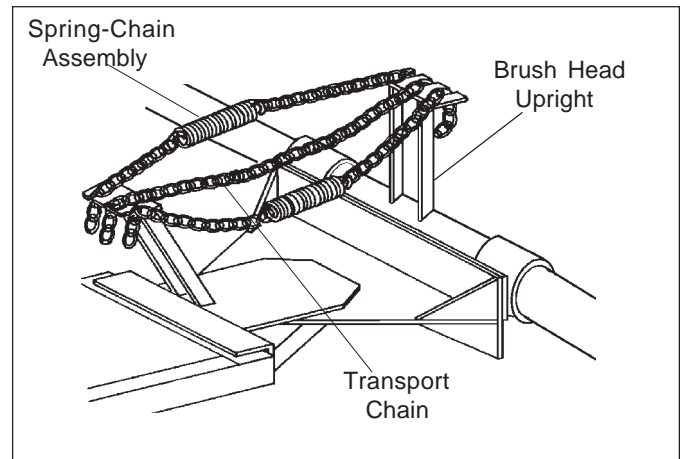

figure 2
5. If necessary, adjust the brush pattern with the spring-chain assembly (figure 2).
- b. Tighten the transport chain (figure 2) or lift cable and lower the sweeper so it supports weight.